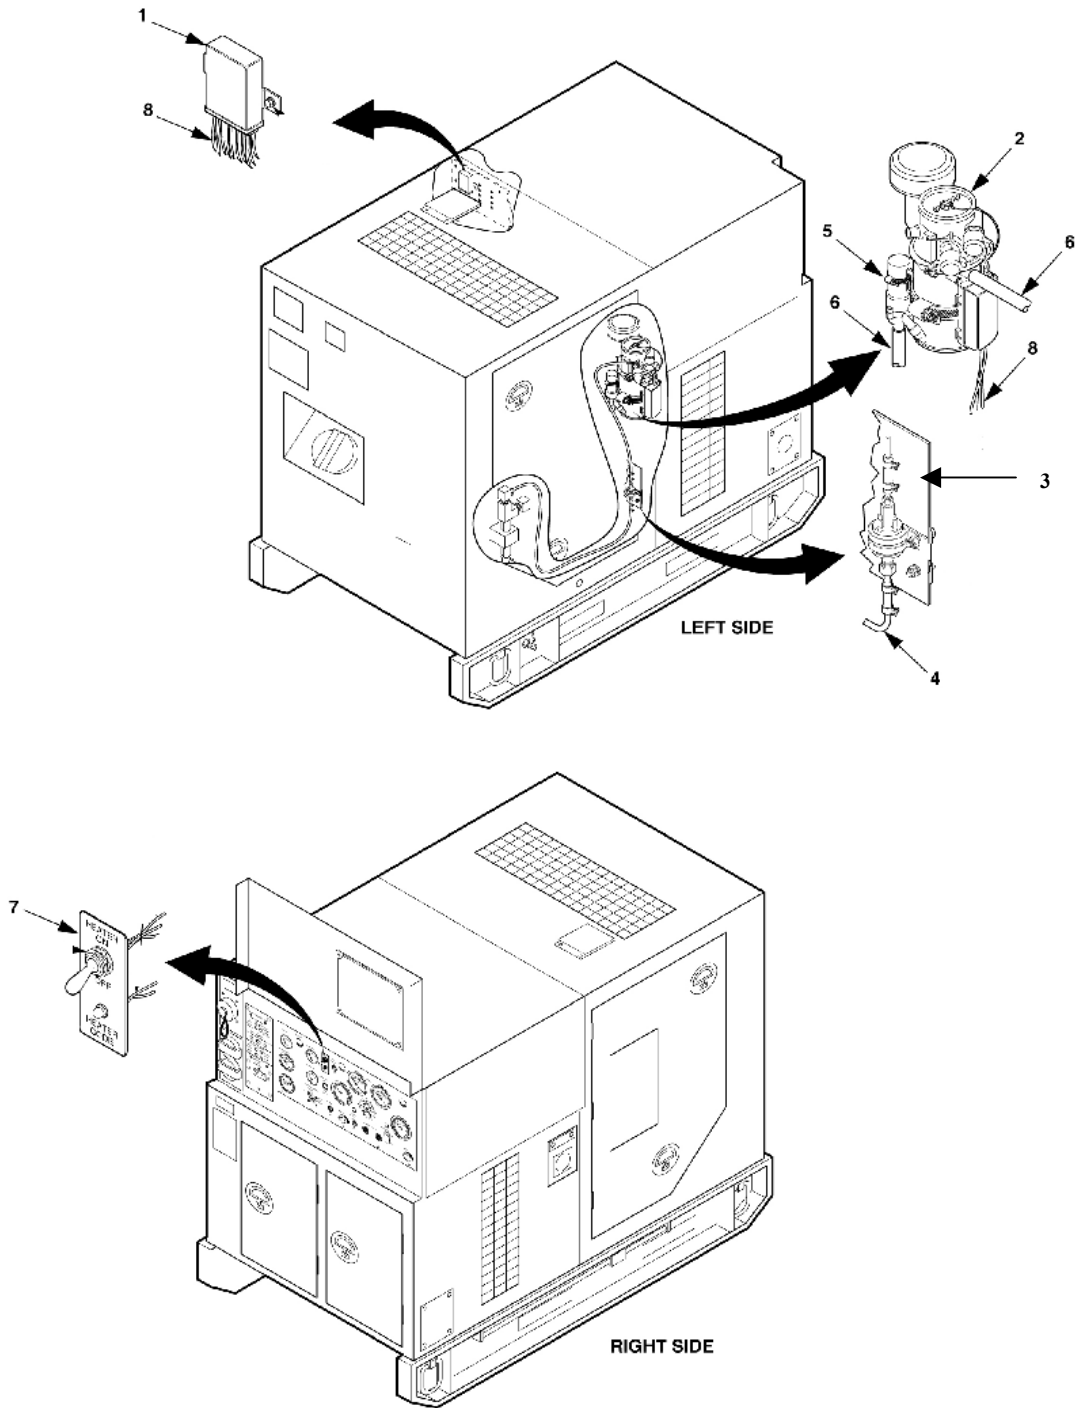

Figure 1-1. Location of Major Components for 5kW (MEP-802A, MEP-812A).
Figure 1-1 illustrates the major components of the kit and shows their locations on the 5kW Tactical Quiet Generator Set. (Refer to table 1-1 for item names).
**2-1.1.1 Heater Indicator Light.** A light at the heater ON-OFF switch (item 7, figure 1-1) lights when the heater is in operation. The light also serves as a troubleshooting code light (See paragraph 3-1.1).